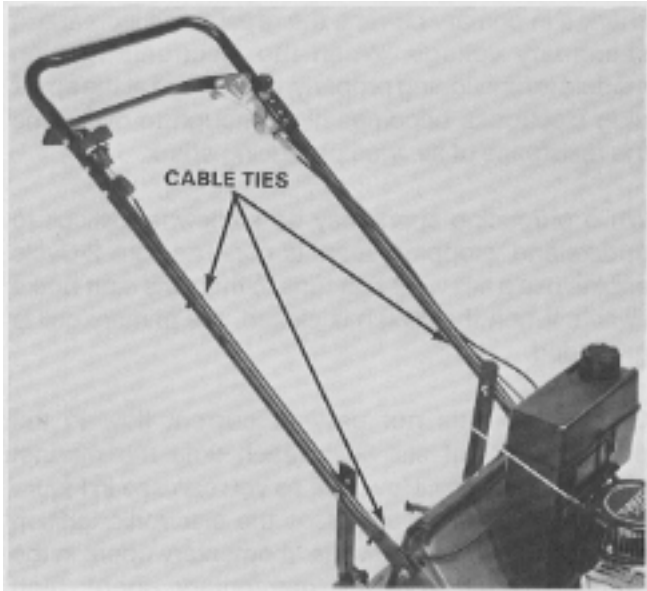

Figure 60
The handle assembly on the Landscaper rear bagger is constructed of 25mm (1") diameter 16 gauge steel. It is painted black with a dry powdered paint. The handle latches are bolted to the handle and the handle is of single piece design. Both these features are for added durability and rigidity to stand up to the rigors of commercial use. See Figure 60.
9. Secure the throttle and traction cables to the left side of the handle with a cable tie. See Figure 60.